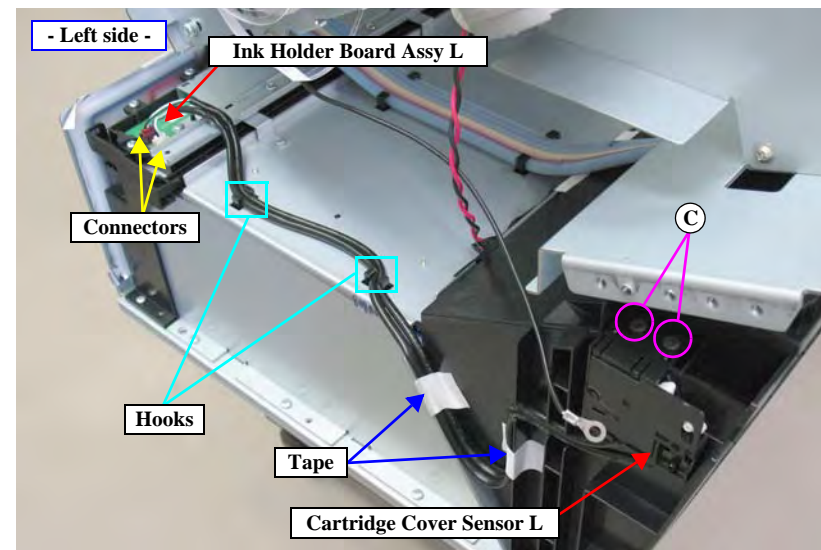

Figure 4-45. Removing the Cartridge Cover Sensor L
9. Release the harness from the two hooks and the tape. *See Figure 4-45.*